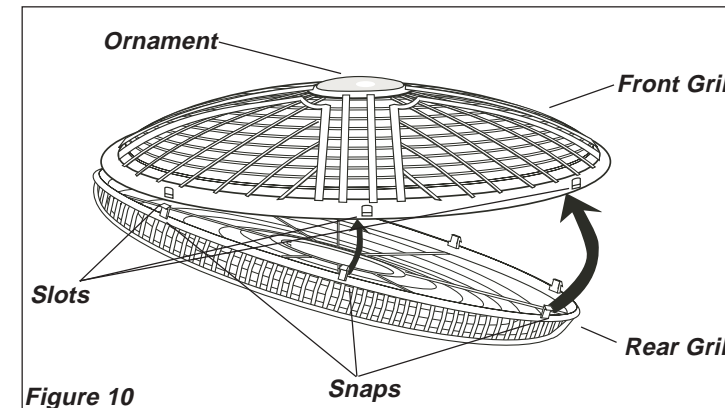

Figure 10
6. With fan head in upright position, align **Ornament** of **Front Grill** so it is horizontal and right side up. By starting with the top of the grill and working down, insert **Snap**s on **Rear Grill** through **Slots** in **Front Grill**. **(Figure 10)**